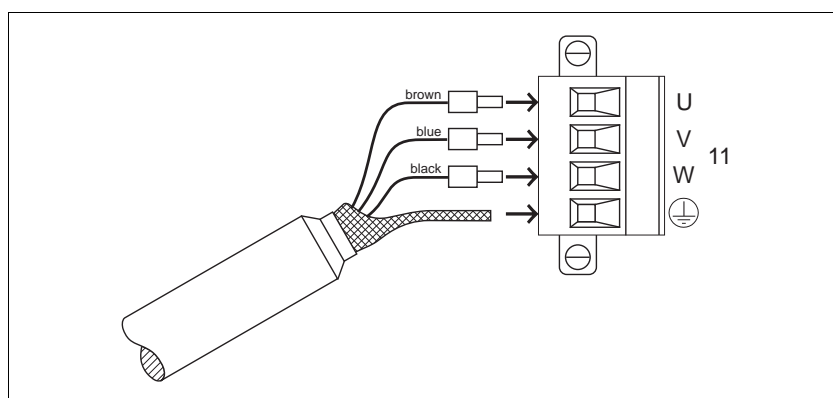

Fig. 2-5 Motor connection X1
1. Release the two screws of the motor connector (item X1 or X2) and remove the connector (figs. 2-5 and 2-6) from the unit.